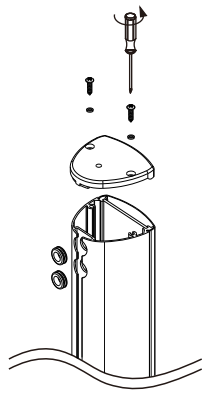

Fig.2
2. Use a screwdriver to unscrew the sound column cover screws, remove the sound column cover, and remove the rubber plug by hand as shown in Fig. 2.